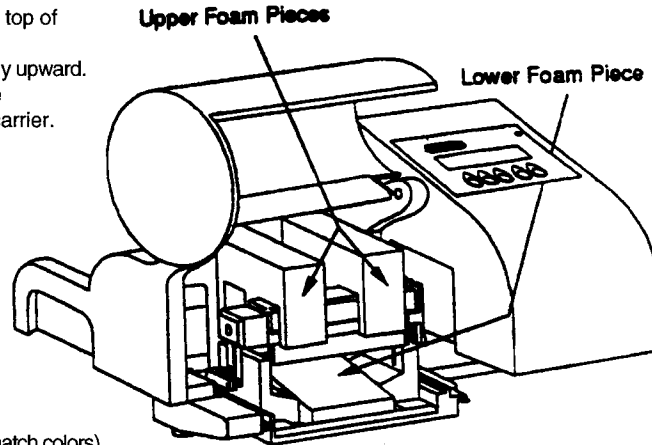

Fig. 6. Location of foam pieces.
- In washer working area (Fig. 6 & 7):